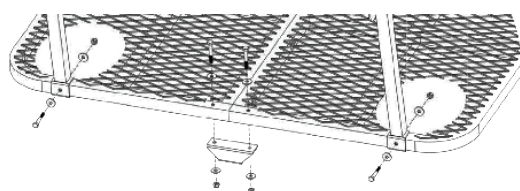

Figure 24
STEP 9: Bolt the vertical uprights and the rear platform support tube to the platform using four (4) 1 3/4" bolts, eight (8) washers, and four (4) locknuts as shown in Figure 24. Make certain to place a washer under the head of each bolt and under each locknut.